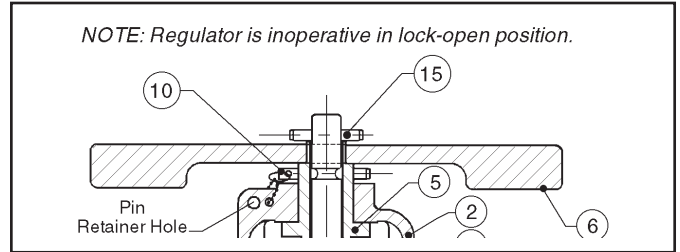

Figure 2: Spring Chamber in Lock-Open Position
3. Remove the lock-open pin (10) from the pin retainer hole in the spring chamber (2). (See Figure 2.)
4. System internal pressure must be at/near 0 psig (0 Barg). This will ensure plug (17) is fully open. **NOTE: Do not change range spring (7) setting by rotating nut or handle (6).**
5. Insert pin (10), jostle nut or handle (6) lift up or push down to secure pin (10) thru adjusting screw (5).